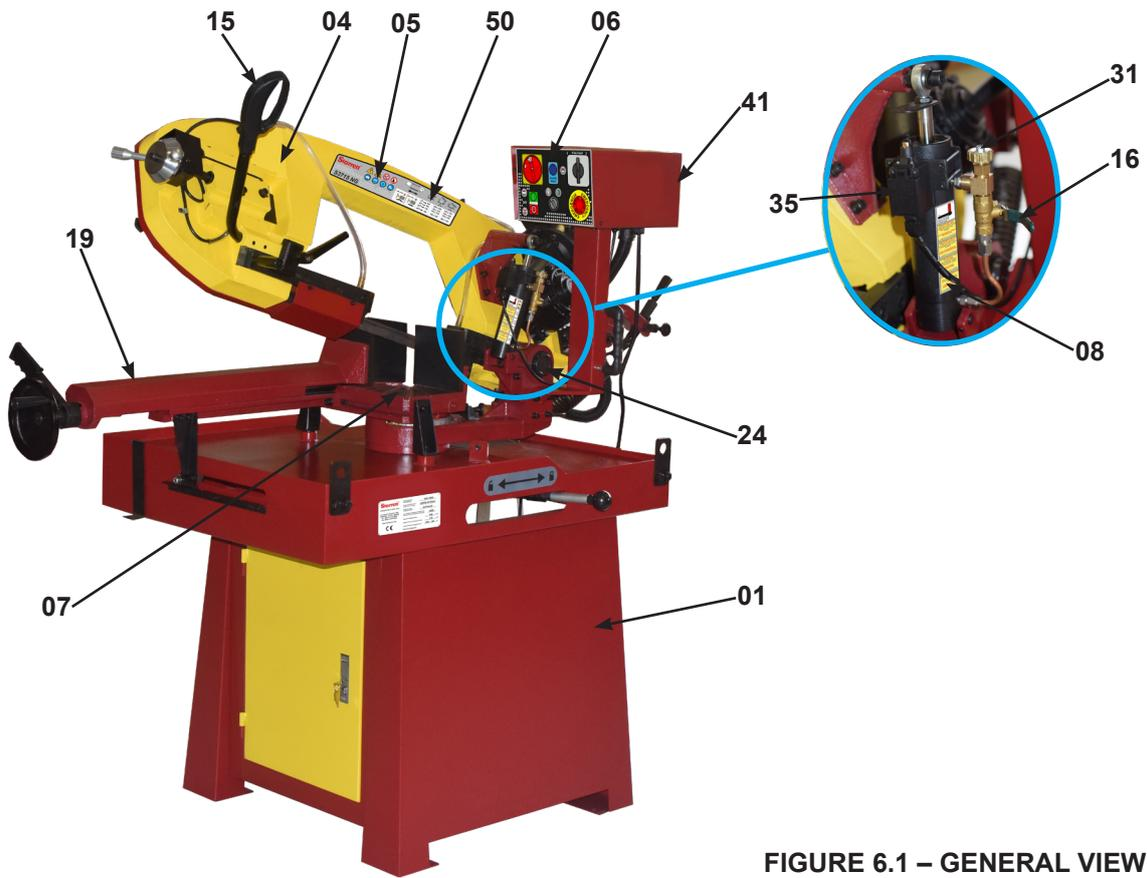
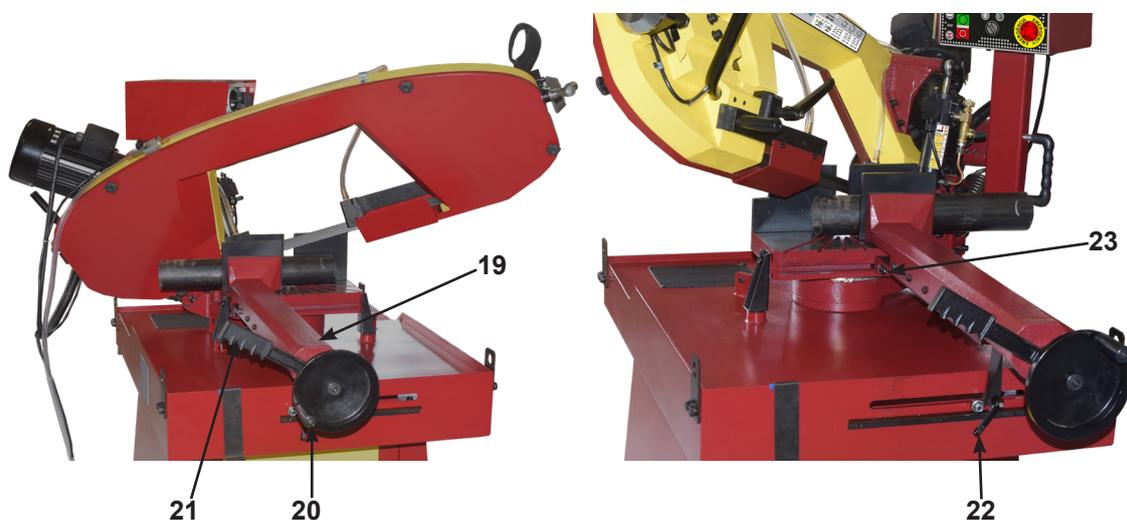

FIGURE 6.1 – GENERAL VIEW
FIGURE 6.5 - TRANSVERSAL MOVEMENT OF THE VISE
Due to the machine's constructive form, the Bow (04) can rotate on a fixed point of the Vise Set (19), called the Bow Shaft (24) (figure 6.1), that is, on an shaft perpendicular to the Cutting Table (07), to allow cutting at angles to the material to be cut.
The upper part of the machine is supported and fixed on a rigid Cabinet (01), built in steel plate and profiles. Its structure is protected by a highly weather-resistant paint. Beside the Bow (04) set is the Command Panel (06), easily accessible by the operator. (figure 6.1).
The Vise Set (19) (figure 6.1) is responsible for rigidly fixing the material to be cut on the Cutting Table (07) (figure 6.1). This set has a longitudinal movement, in the direction of material clamping, controlled manually by the Crank (20) (figure 6.5). The tightening or loosening of the same on the material, is also controlled manually by the Quick Tightening Lever (21) (figure 6.5).
The second movement of the Vise Set (19) is transversal, which positions the Vise Set (19), both on the right side as in the left side of the Bow (04). To make the adjustment and lock in the desired position there is a Vise Lock Handle (22) and the two Screws of Vise Lock (23) (figure 6.5).
By pressing the **START** Button (34) (figure 6.5), of color **GREEN**, the movement of the Band Saw Blade (10) begins.
At the end of the cut, the Limit Switch (35) (figure 6.1) is actuated, turning off the Electric Motors M1 of the Blade Motor (11) and M2 of the Coolant Pump (36) (figure 10.2).